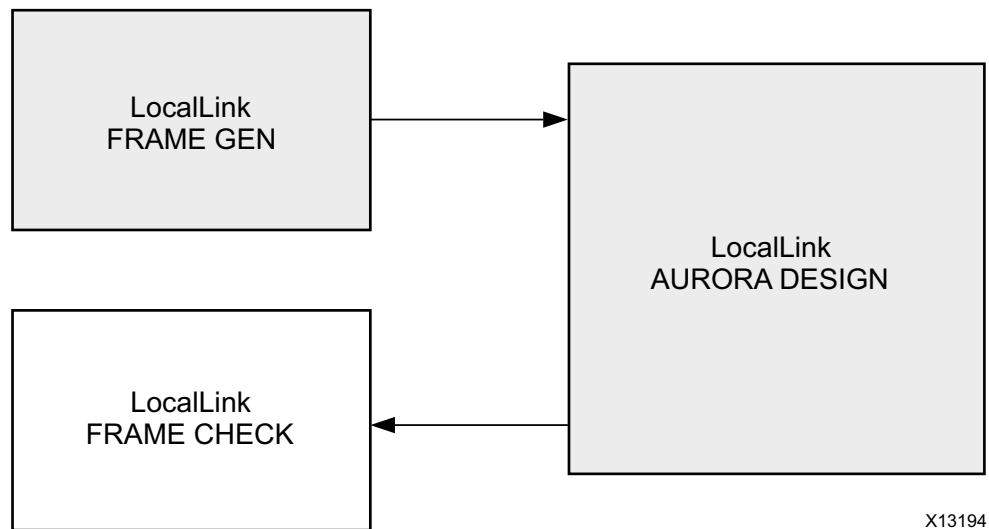
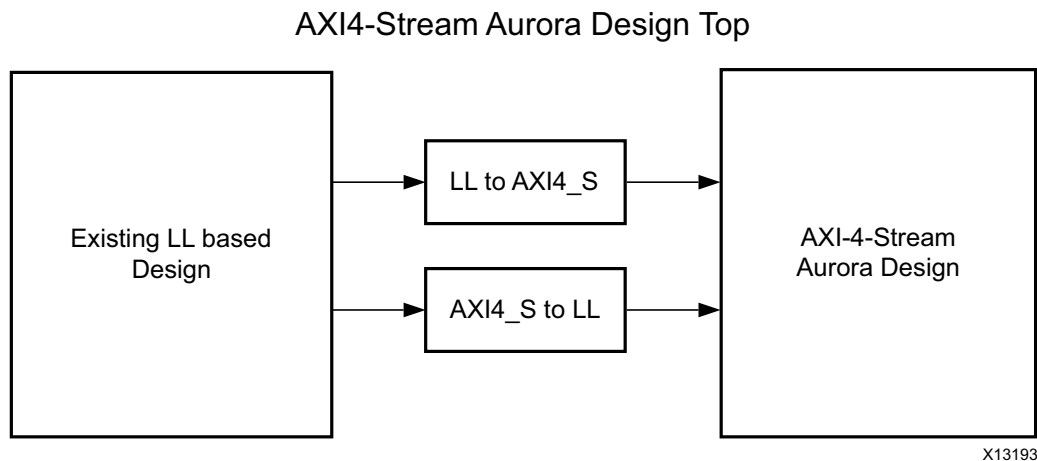

Figure B-1: Legacy Aurora Example Design
Figure B-2: **AXI4-Stream Aurora Example Design**
Figure B-1 shows an example Aurora design using the legacy LocalLink interface. Figure B-2 shows an example Aurora design using the AXI4-Stream interface.
2. See Figure B-2, page 103 for the emulation of an LL Aurora core from an AXI4-Stream Aurora core.
5. Connect the shim and AXI4-Stream Aurora design as shown in Figure B-2, page 103.